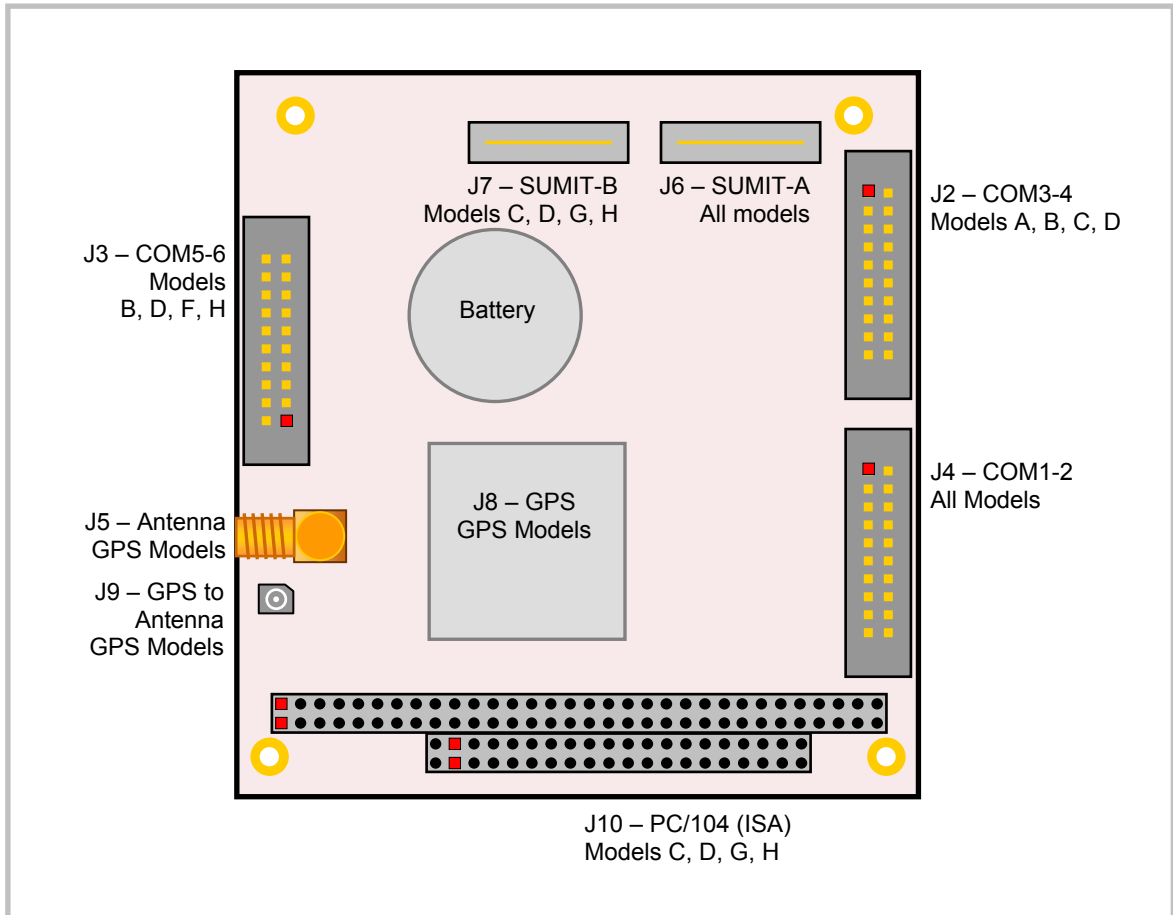

Figure 5. VL-EPMS-U1 Connectors – Top Side
1. The PCB origin is the center of the mounting hole located in the lower left, as oriented in Figure 5.